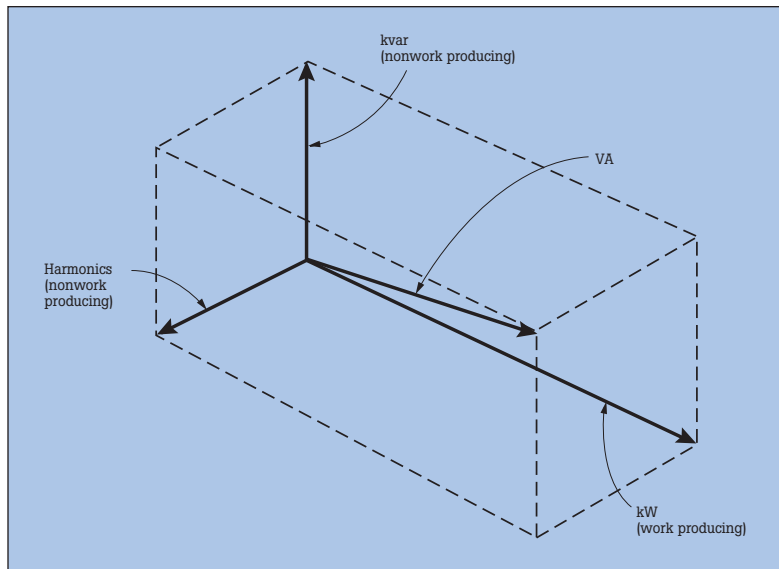

Figure 7. Total Power Factor increases with harmonics.
Total PF and Displacement PF are the same in one basic sense: they are the ratio of Real Power to Apparent Power, or Watts to VA. DPF is the classic concept of power factor. It can be considered as the power factor at the fundamental frequency. Total Power Factor, abbreviated to Power Factor (PF), now includes the effects of fundamental and of harmonic currents (it is also referred to as True PF or Distortion PF, Figure 7). It follows that with the presence of harmonics, PF is always lower than DPF and is also a more accurate description of total system efficiency than DPF alone.